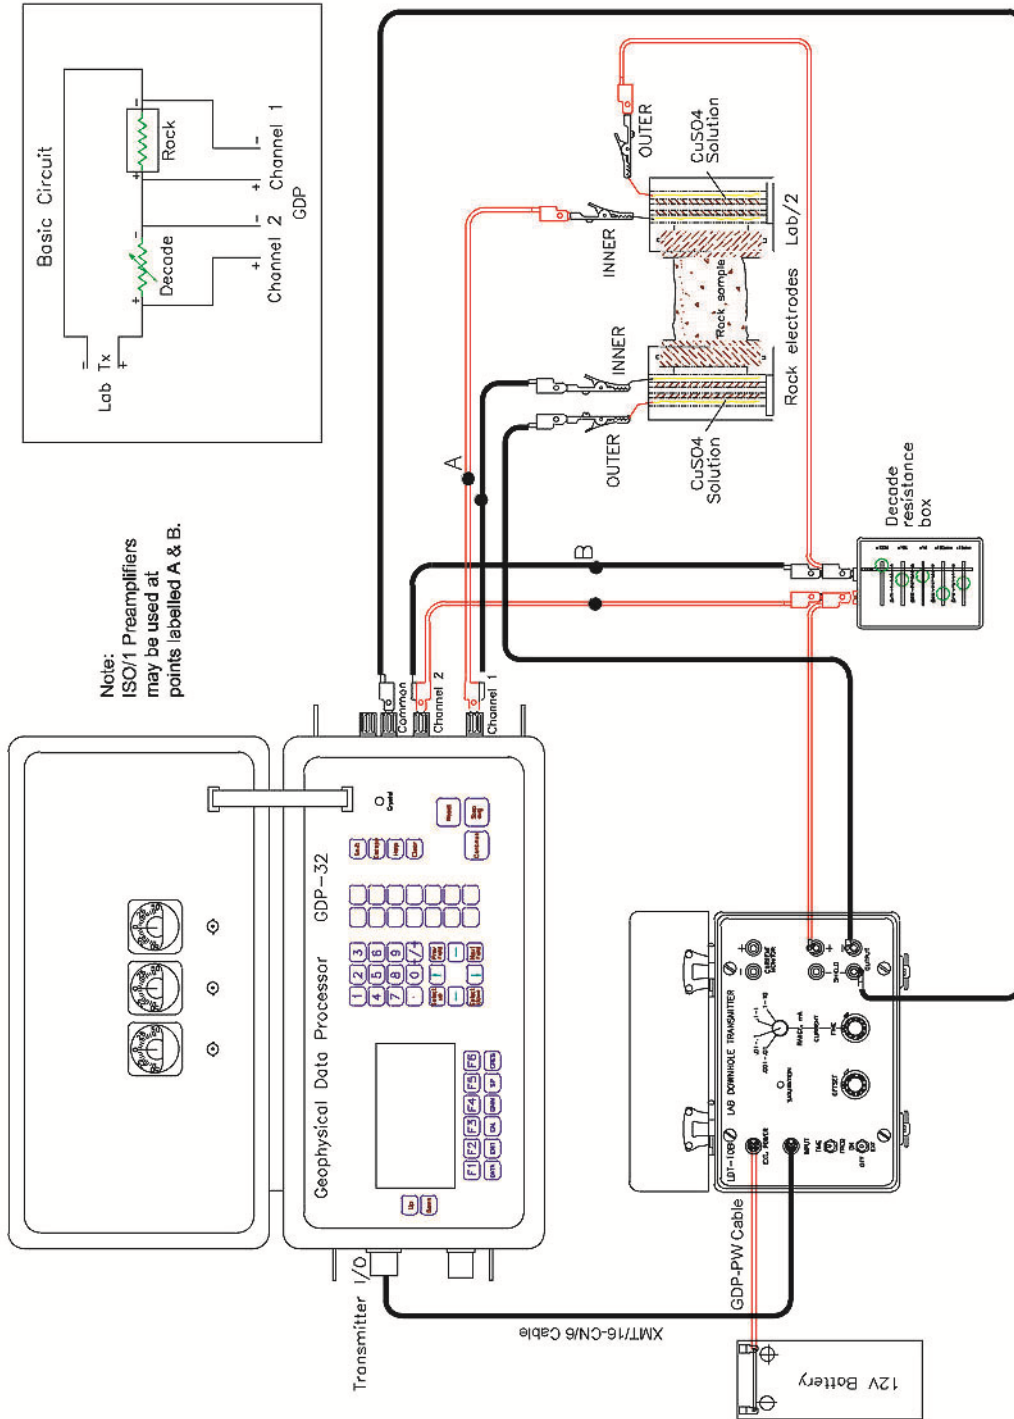
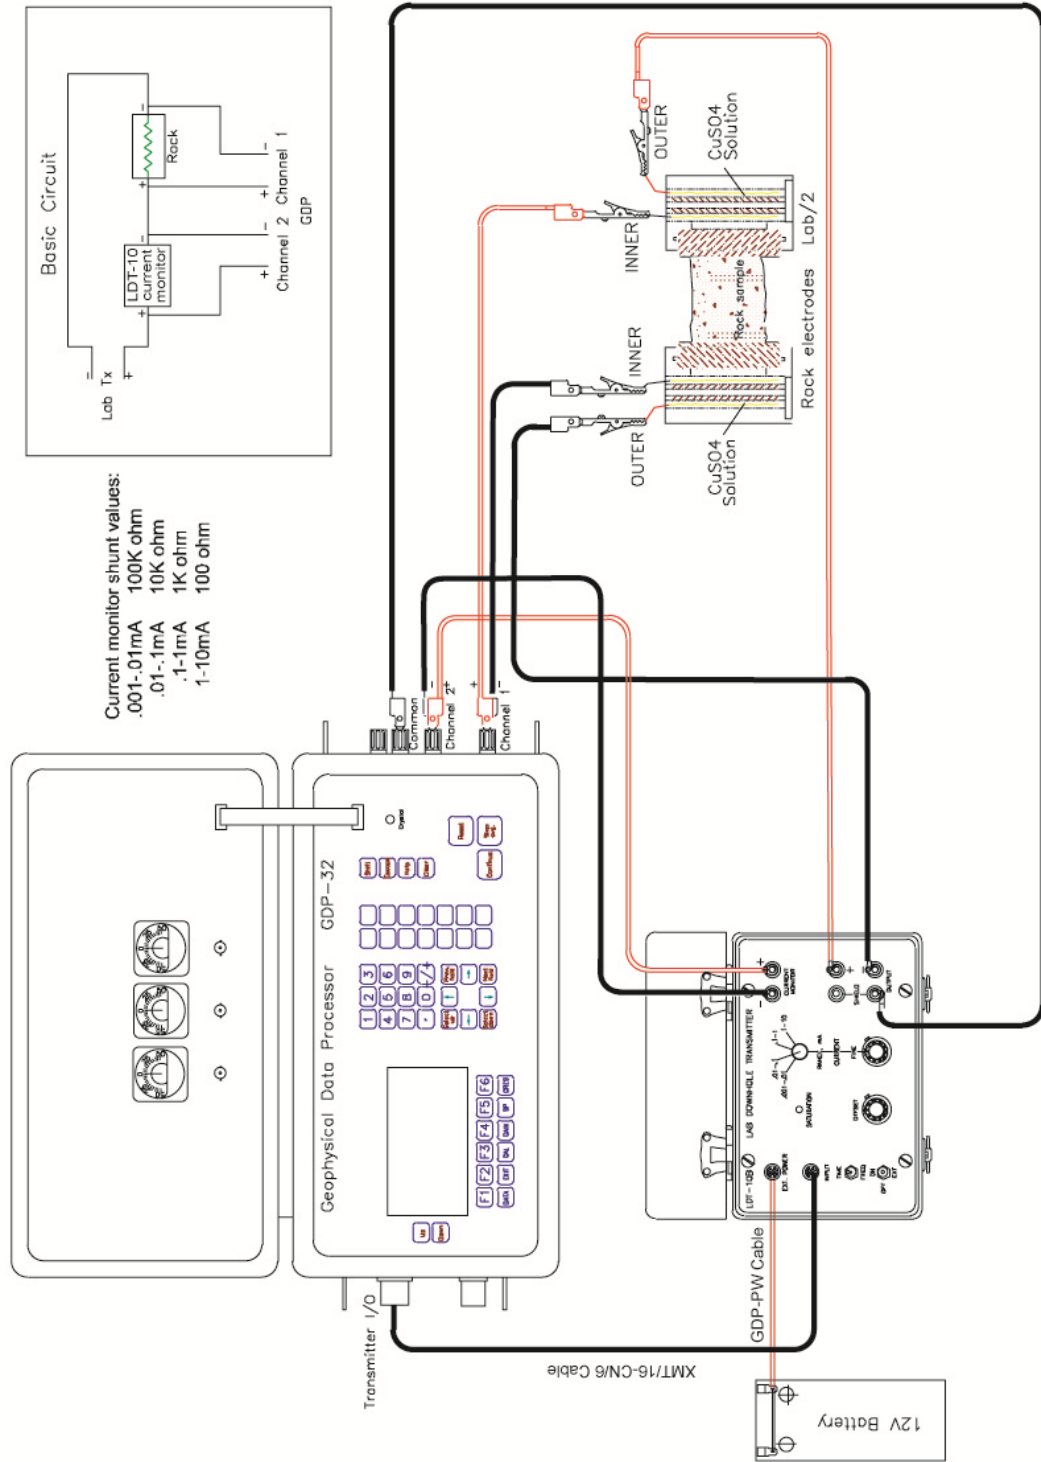

Figure 1 Laboratory Rock Measurement Setup.
Figure 2 Alternate Laboratory Rock Measurement Setup.
- 1.9. **CURRENT MONITOR binding posts.** The output of the **CURRENT MONITOR** is proportional to the setting of the **FINE** adjust knob and varies between 0.1 volt and 1 volt. It is an accurate scaled version of the output current with a different current sense resistor for each current range. This current monitor is usually used for making resistivity measurements or downhole resistivity/IP measurements. Current output and thus the current monitor is inverted in relation to other Zonge transmitters. Reversing polarity at the **OUTPUT** and **CURRENT MONITOR** binding posts is advised. See *Figure 2*, Alternate Laboratory Rock Measurement Setup.
- 2.1. Connect the GDP, LAB TRANSMITTER, and ELECTRODES as shown in *Figure 1* or *Figure 2*. The ELECTRODES are specifically designed for laboratory measurements to provide a non-polarizing contact with the rock.